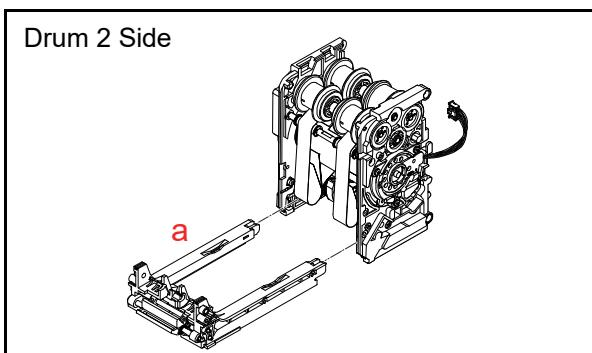

**Figure 4-118** Sponge Roller Assy. Removal (Drum 2 Side) 3
3. Push the Bottom Course (Figure 4-118 a) in the direction indicated by the Arrow.
4. Remove the single (1) Shaft (Figure 4-118 b) to remove the Sponge Roller (Figure 4-118 c).